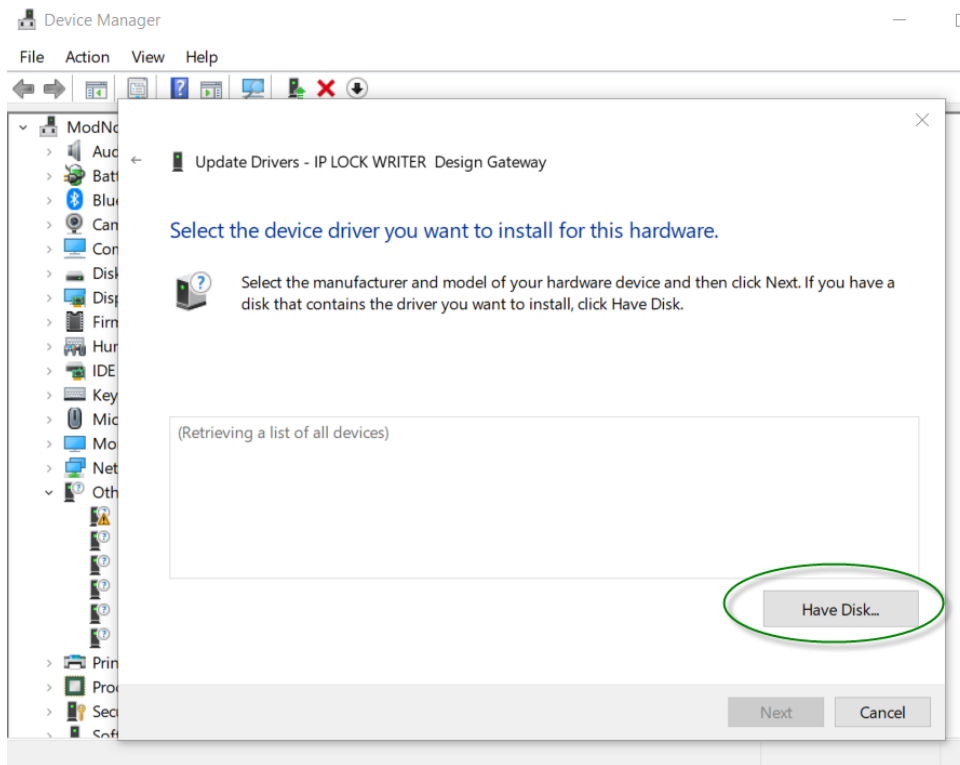

Figure 7-5 Select device's type from the list by click HaveDisk
- Click "Have Disk" as in Figure 7-5.